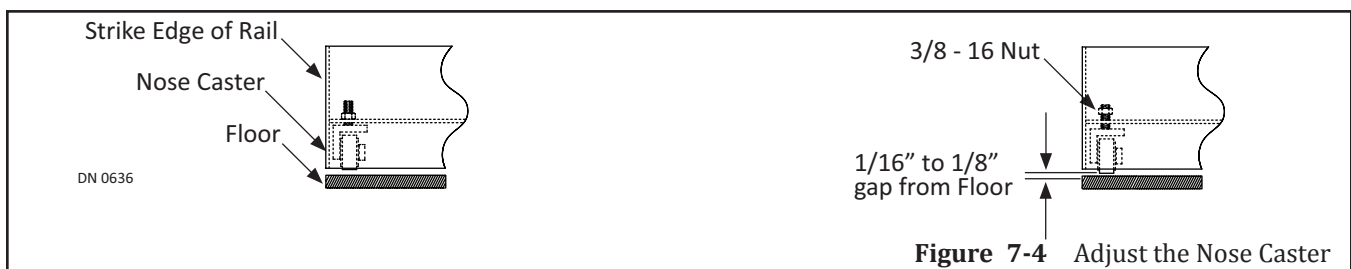

Figure 7-4 Adjust the Nose Caster
1. Locate the Nose Caster that was pre-installed within the Bottom Rail at the NABCO Factory. Please see Figure 7-4.